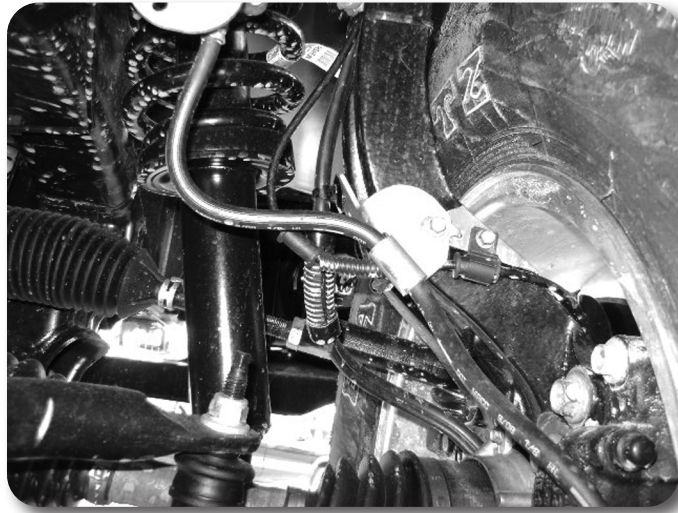

Figure 17
41. Attach the ABS line to the connector at the inner fender and the vacuum line to the hub. Route the lines similar to the factory setup down to the side of the knuckle. Attach the ABS wire with the factory 6mm bolt to the side of the knuckle. Attach the brakeline with a new 6mm x 18mm bolt with 1/4" washer to the side of the knuckle, the brakeline locating tab will go into the unthreaded hole. Figure 17.